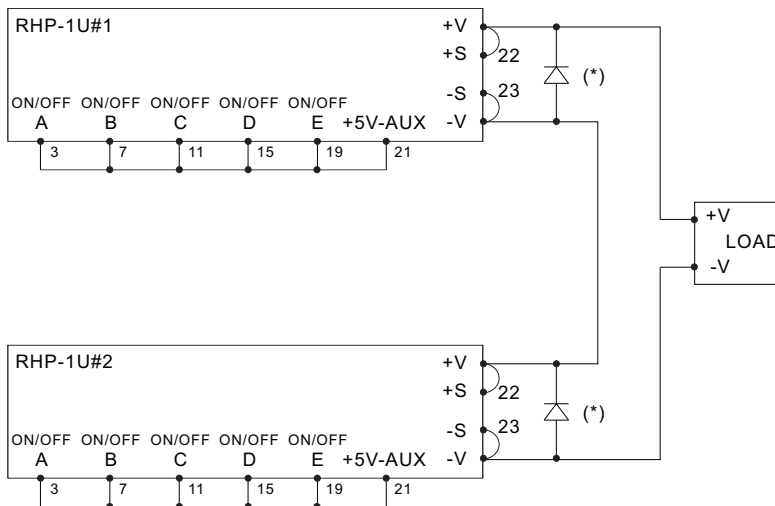

Figure 3-9 Configuration of rack shelf units in series
- ⊙ The rack shelves (RHP-1U□) connected in series should have the identical units. Please refer to Figure 3-9 for wiring configuration.
- ⊙ It is suggested that add external diodes (*) on the output, shown in Figure 3-9, to prevent reverse voltage. Rating of these diodes should be higher than the total amount of output voltage and current.